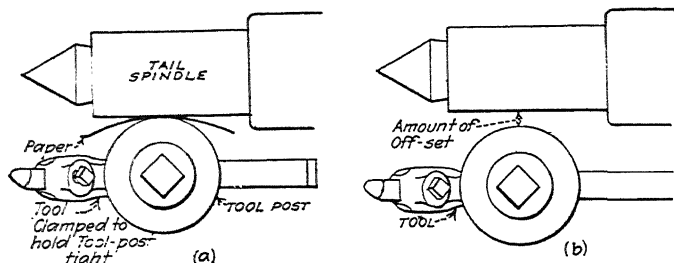

FIG. 155.
**164. Methods of Gauging Offset.**—Assume that the lathe is set for straight turning and that a certain amount of offset is required to turn the taper. Hold the tool post rigid by clamping a tool as in Fig. 155. Run the cross slide in until a piece of paper is lightly pinched between the tool post and the tailstock spindle (a, Fig. 155). *Take up the lost motion in the*
*cross-feed screw*, and using the graduations on the collar, run the cross slide away from the spindle until the distance between the tool post and the spindle is equal to the amount of the required offset (b, Fig. 155). Then adjust the *tailstock slide* until paper is pinched between the spindle and the tool post, thus obtaining the required offset.
If necessary to offset in a direction away from the operator, use a similar method. Arrange as above at a, Fig. 155, offset the tail spindle a little farther than necessary, run the cross slide in the proper amount, and adjust the tailstock back toward the operator until the piece of paper is pinched between the spindle and the tool post.